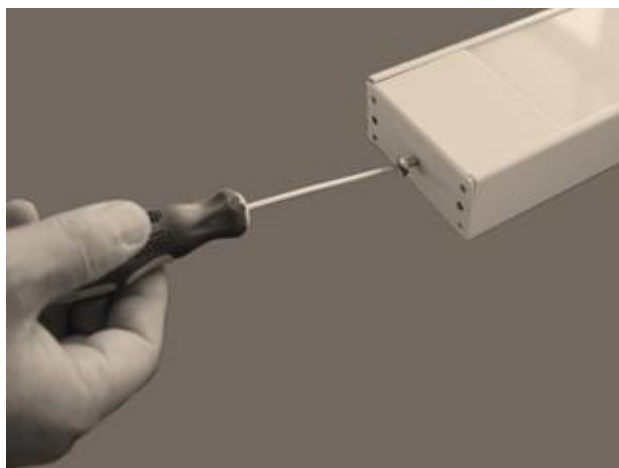

Figure 1
2. Remove the end covers from **the** fitting by loosening the screws. (figure 1)